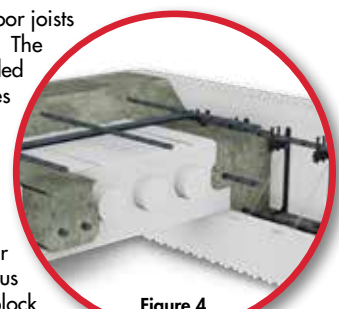

Figure 4
**FIGURE 4.** Integrate BuildDeck or other ICF flooring system directly into the ICF wall by cutting blocks at the correct height and joining the floor and wall systems during a continuous pour. Optional BuildClip ledge block reinforcement shown.